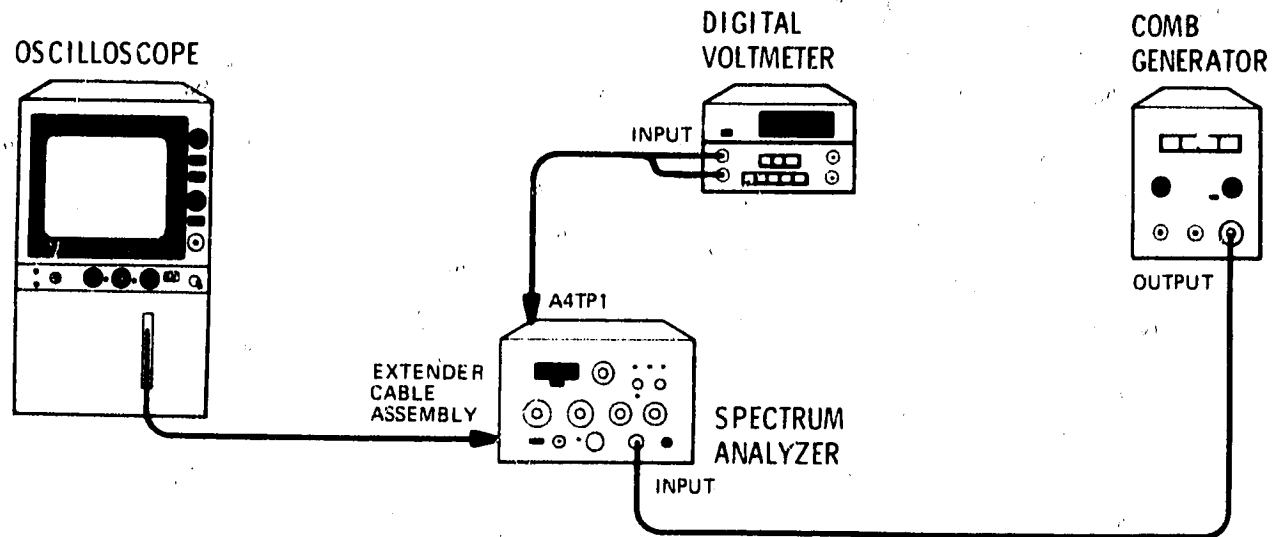

Figure 5-1. Frequency Control Adjustment Test Setup.
1. Connect equipment as shown in Figure 5-1. Connect digital voltmeter to A4TP1.